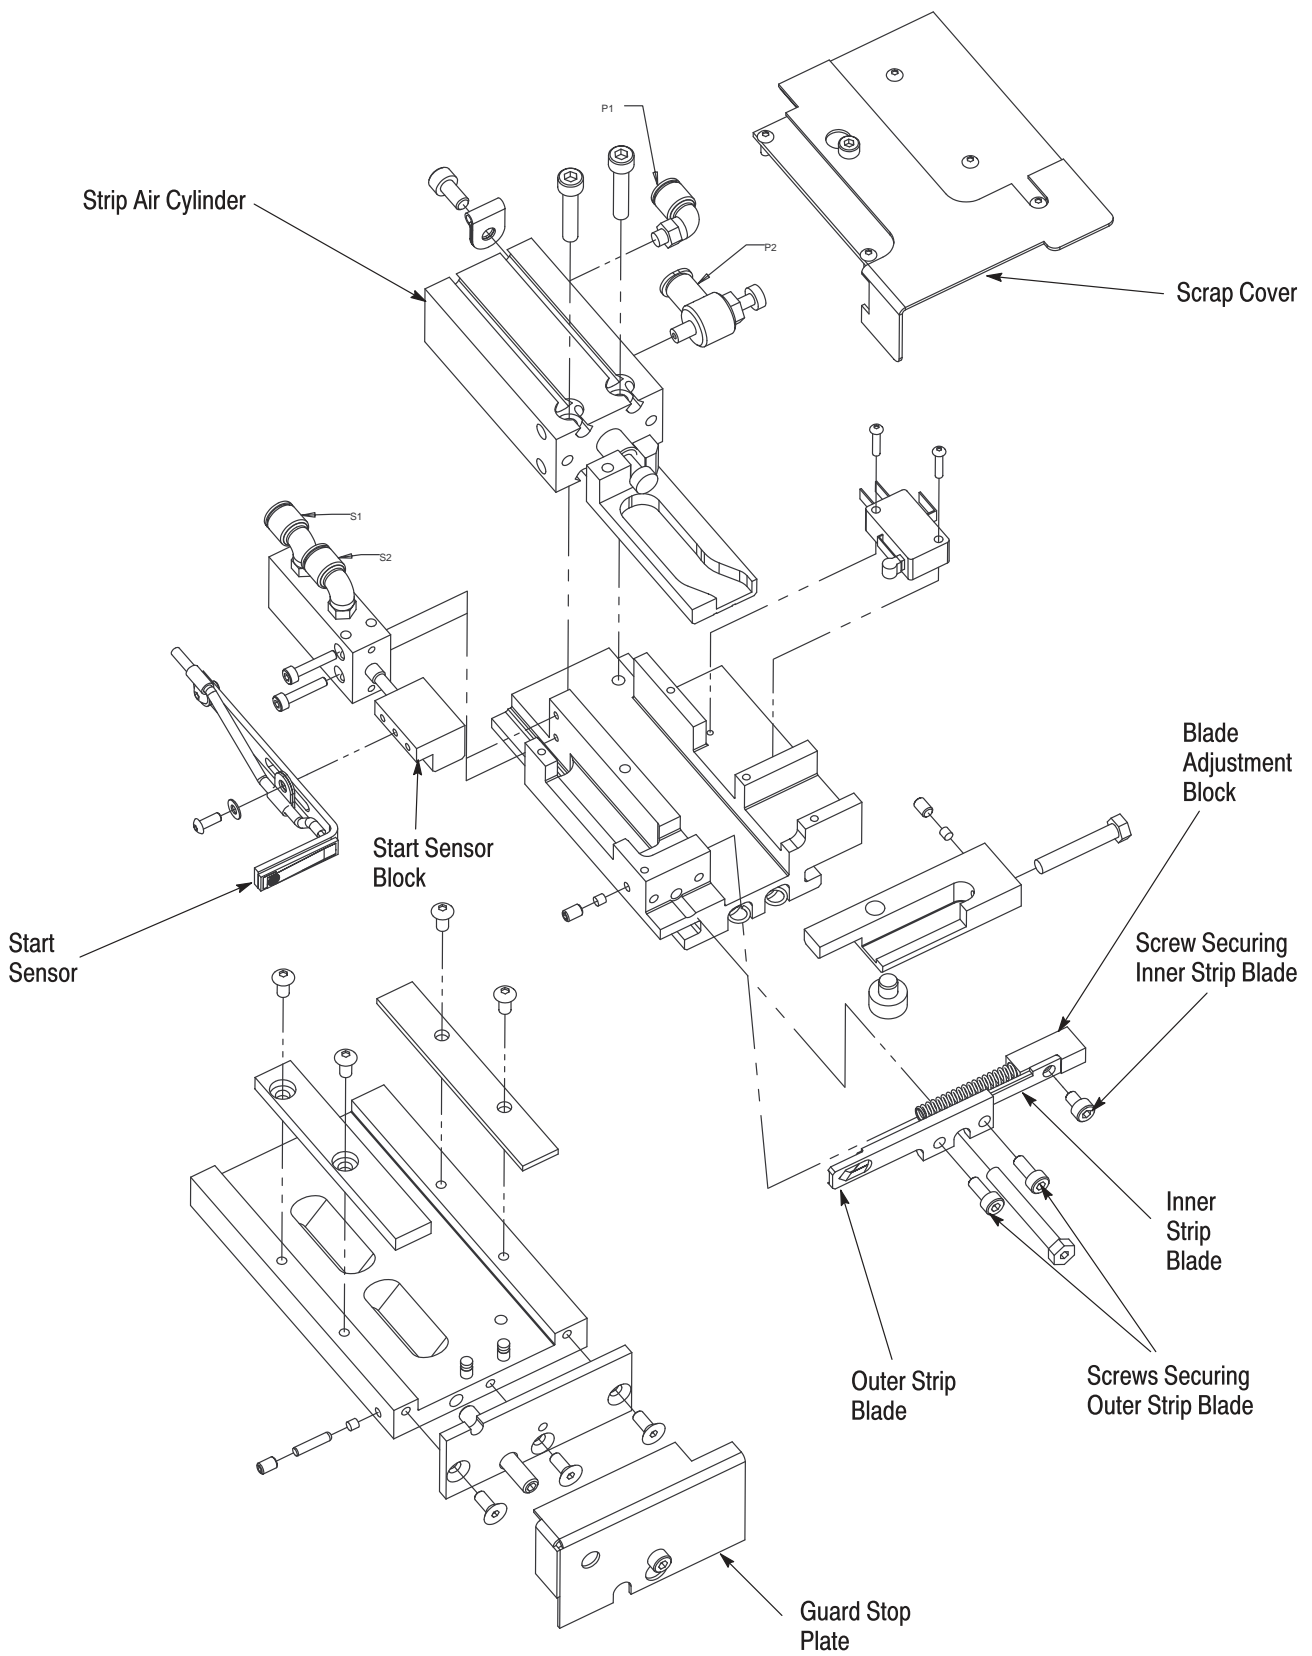

Figure 15
9.1. Strip Blade Replacement (Figure 15)
9.2. Start Sensor Assembly Replacement (Figure 15)